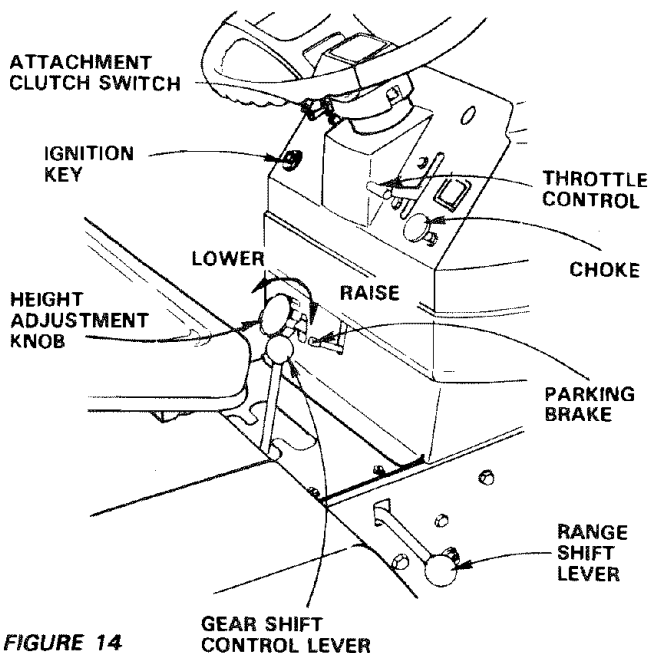

FIGURE 14
- e. Place gear shift lever in "N" neutral, start position (Fig. 14).
- f. Place range shift lever in "N" neutral position (Fig. 14).
- g. Pull choke out (Fig. 14).
- h. Move throttle control to middle position (Fig. 14).
- i. Turn ignition to "START" position until engine starts (Fig. 14). NOTE: DO NOT RUN STARTER CONTINUOUSLY FOR MORE THAN FIFTEEN SECONDS PER MINUTE. If engine does not start after several attempts, move throttle control to "F" (fast) position, wait a few minutes and try again.
Use the height adjustment knob (Fig. 14) to adjust mower height. With the attachment lift lever in the full "UP" position, turn height adjustment knob clockwise (↻) to raise cutting height and counterclockwise (↺) to lower cutting height. Lower attachment lift lever to check adjustment.
- f. With engine running and warm, place throttle control midway between "S" (slow) and "F" (fast) position (Fig. 14).
- g. To engage mower pull attachment clutch switch (Fig. 14) out and up.
- h. Move range shift lever to "LO" (low) position (Fig. 14).
- i. Move gear shift lever to desired gear (Fig. 14).